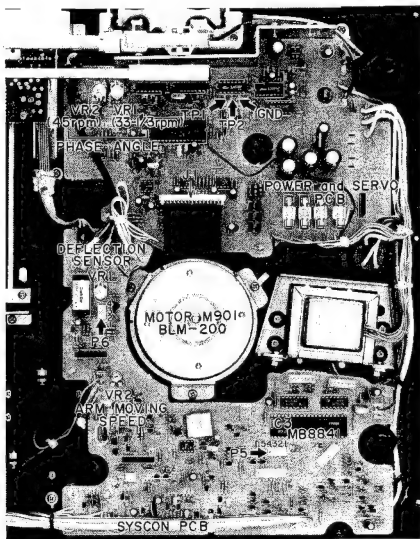

Fig. 22
3. ARM MOVING SPEED ADJUSTMENT (Refer to Figs. 22, 25)
- 4) Turn Syscon P.C Board VR1 (Fig. 22) counterclockwise all the way.